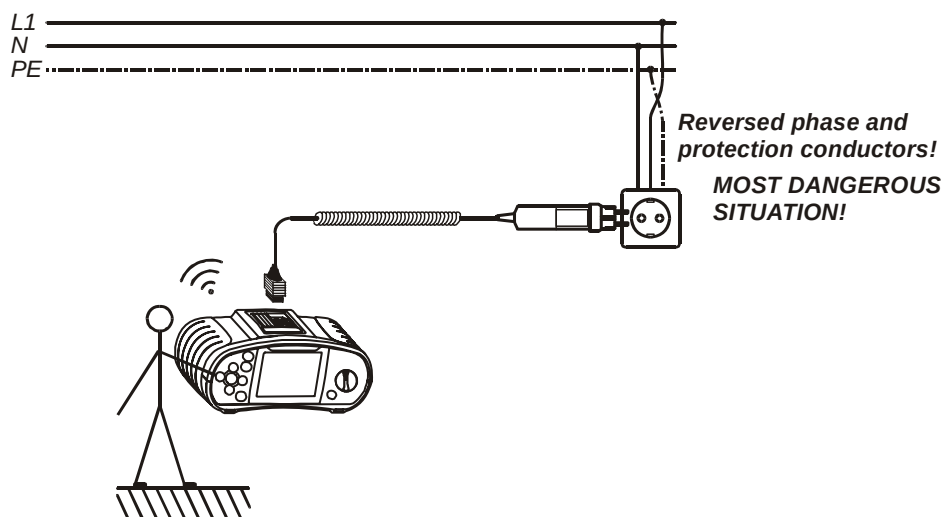

Figure 5.42: Connection of plug cable to mains outlet with reversed L and PE conductors
Step 2 Follow the connection diagrams shown in figures 5.42 and 5.43 to test PE terminal.